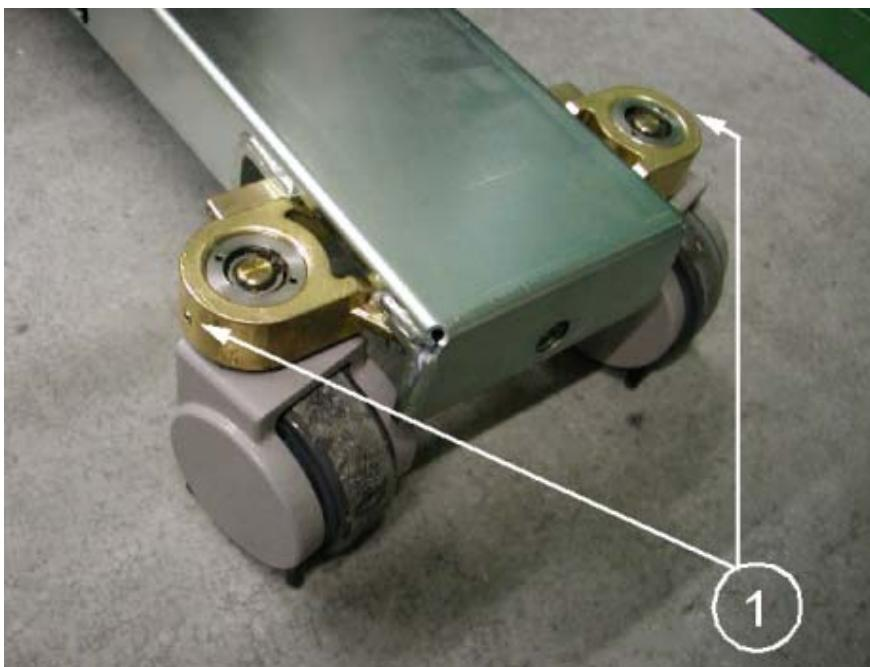

Fig. 1
- Remove the front wheel cover (already done in Fig. 1).
- Check the 2 ISK screw (1/Fig. 1) for tightness.